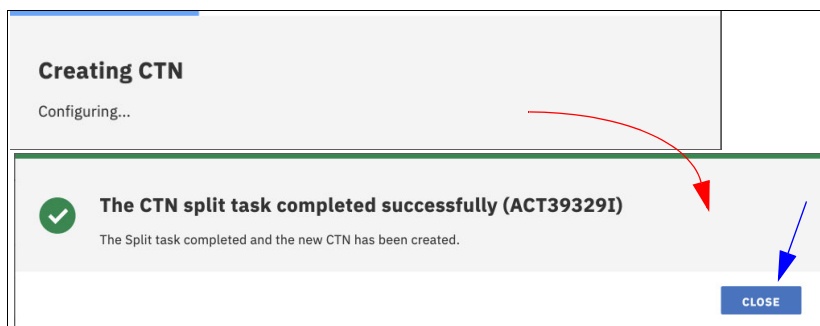

Figure 5-14 Task completed successfully
- Review the changes, then scroll down and click **APPLY**. The progress messages followed by the Split CTN task success message are displayed (see Figure 5-14)